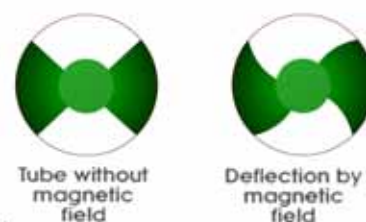

figure 2
The electron path is observed to curve when the valve is placed in the uniform magnetic field from a solenoid. (See figure 2).
In order to measure the radius of curvature (R) use a cork borer as a template. Select a large cork borer and, looking through the borer to the top of the valve, adjust the current flowing through the wire loop so that the electron path exactly fits the curvature of the selected cork borer. Measure the diameter of the cork borer with the vernier callipers and calculate the radius of curvature of the electron path. Figure 2 shows the top view of the valve when the magnetic field is turned off and when it is turned on.